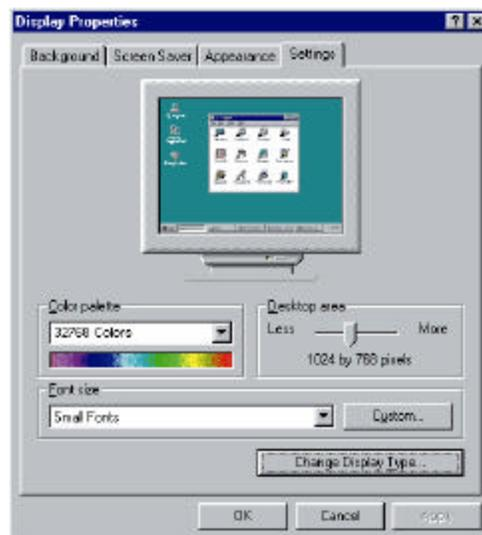

Figure 7: Display Properties - Settings
4. The Display Properties applet contains tabbed dialog boxes that allow you to change the visual properties of your computer display. Click the “Settings” page (Figure 7).